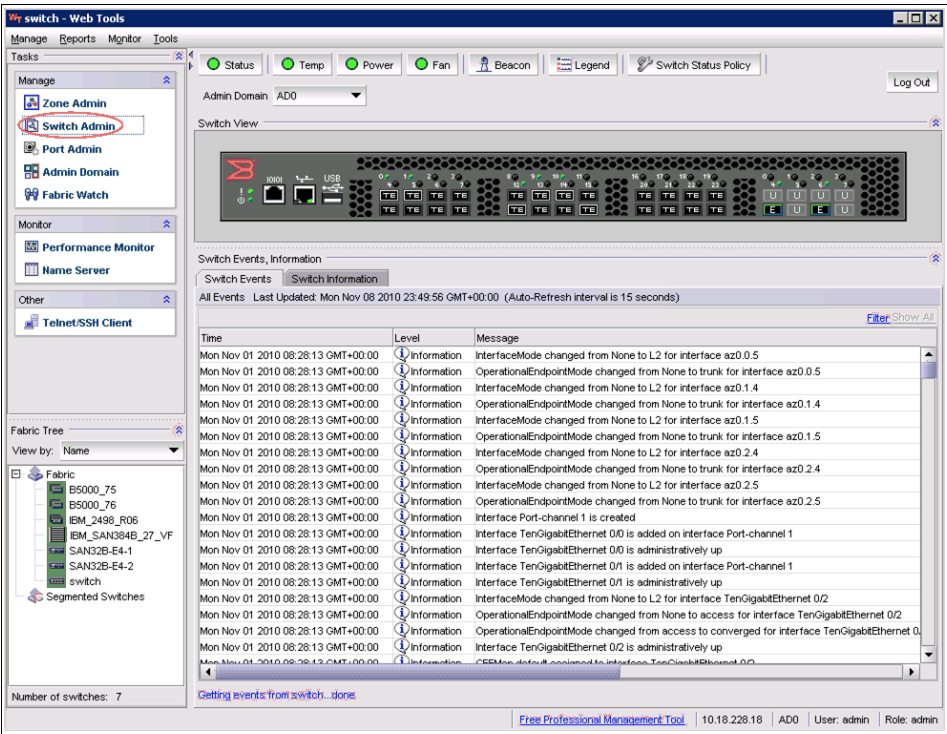

Figure 8-73 IBM Converged SAN B32 switch Web Tools
1. Launch Web Tools for IBM Converged B32 switch and select **Switch Admin** as shown in Figure 8-73.